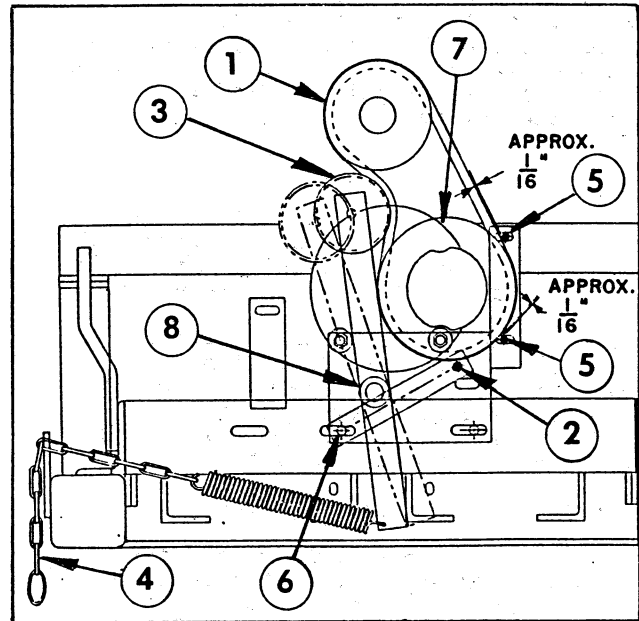

Figure 11
1. Install the Drive Belt. The Belt Diagram in Figure 11 illustrates the correct relationship between the Pulleys and the Belt-to-Belt Guide clearances. Adjust if necessary, as described below.
3. Check to see that the Idler Pulley is approximately centered between the Engine and Spreader Pulleys as shown in Figure 11.